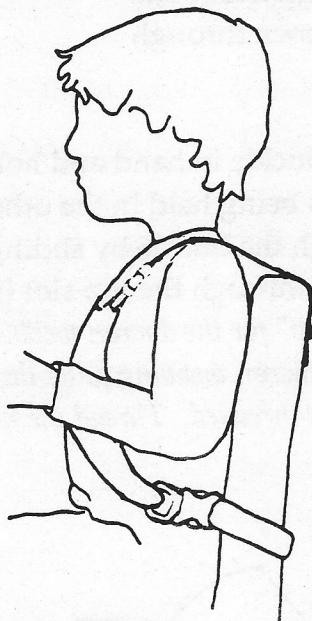

Figure 7
i. Mark the points on the seating system where the dacron webbing straps are to be mounted. To do this, fasten all four buckles and hold the Custom Trunk Support in proper position against the individual's chest. Pull the top straps to the "back" and the bottom straps to the side "edge" of the seating system (see Figure 7). Make sure that the mounting points maintain the angle of each strap of the Custom Trunk Support. Adjust the length of the dacron as necessary by pulling it through the male part of the buckle and the tri-glide. The dacron webbing may be trimmed if it is too long. (However, remember to leave enough dacron webbing to accommodate winter clothing and growth.)